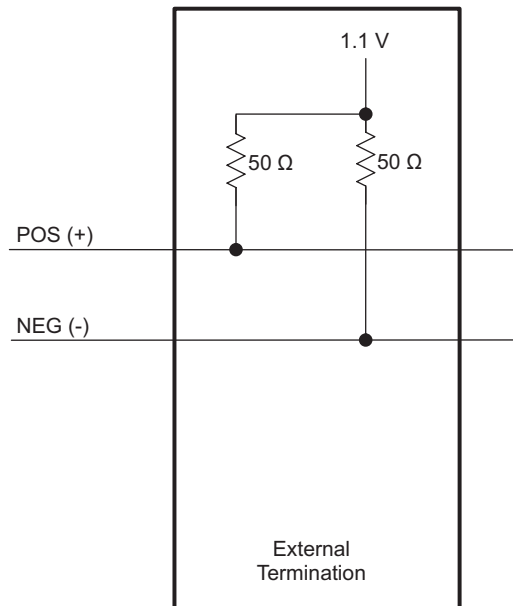

Figure 3. External Terminations: Receiver Has No Internal Terminations
- If the LVDS receiver includes neither the 100 Ω or biasing, use the external terminations shown in Figure 3.